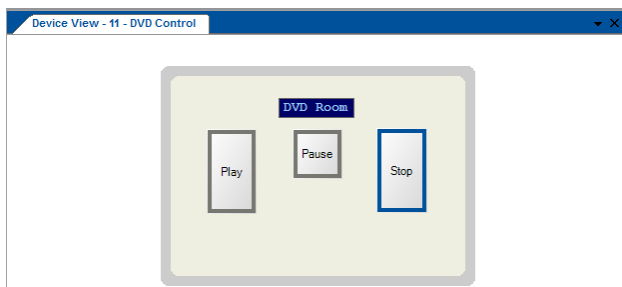

Figure 100: Final Appearance of the “DVD Control” Virtual Device Front Panel in K-Config
3. Right click the label and buttons to name them (see Figure 100):
Figure 100 illustrates the final appearance of the virtual device: